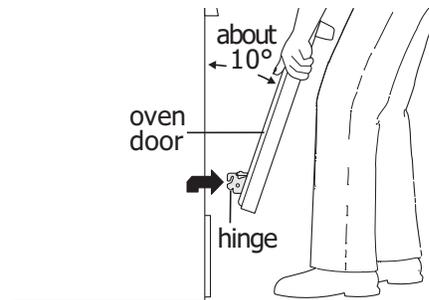
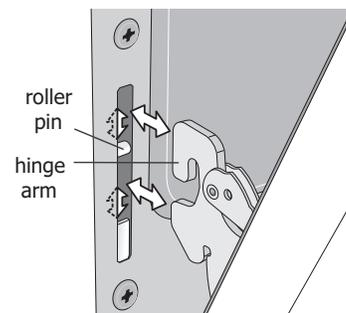

Figure 12: Holding door for removal
Figure 13: Replacement and location of hinge arm and roller pin
3. Firmly grasp both sides of oven door along the door sides. Do not use the oven door handle (See Figure 12).
5. Lift the oven door hinge arms over the roller pins located on each side of the oven frame (See Figure 12).
1. Firmly grasp both sides of oven door along the door sides. Do not use the oven door handle (See Figure 12).
2. Holding the oven door at the same angle as the removal position, seat the hook of the hinge arm over the roller pins located on each side of the oven door frame (See Figure 12 and Figure 13). The hook of the hinge arms must be fully seated onto the roller pins.